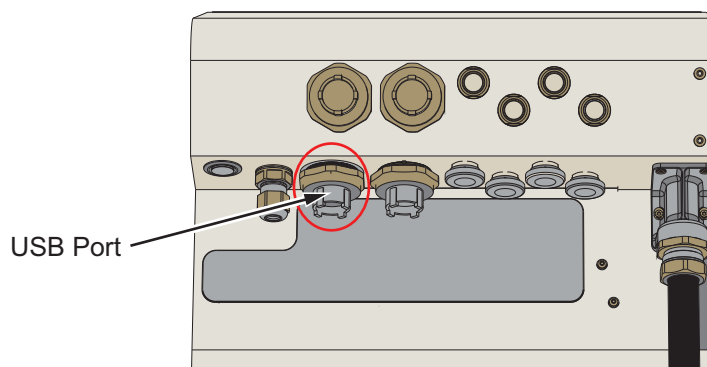

Figure 4-12: USB Location
1. Locate the USB port on the back side of the printer (see Figure 4-12) and insert the USB.